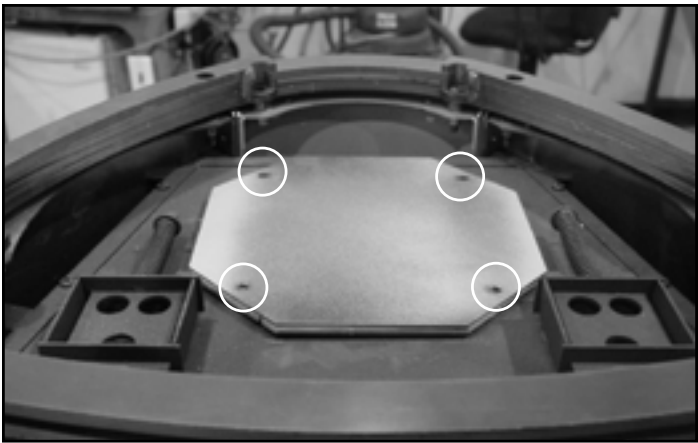

Figure 8.11
- Install the cover plate and gasket removed from the rear of the appliance to the top of the appliance with the screws previously removed. (Figure 8.11).
- Reinstall safety barrier by setting it over (2) placement pins.